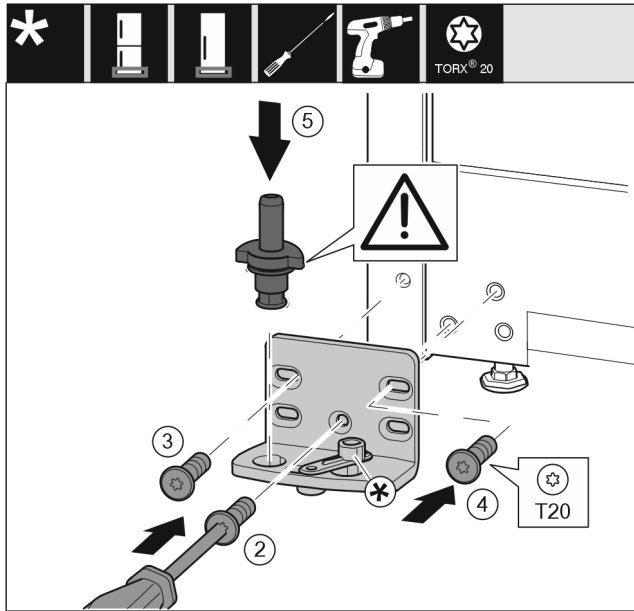

Fig. 17
- Attach the swap bearing block onto the other side and screw it on using a screwdriver. Start with the screw *Fig. 17 (2)* at the bottom center.
- Tighten screw *Fig. 17 (3)* and screw *Fig. 17 (4)*.
- Insert the bearing pin *Fig. 17 (5)* completely. In the process, make sure that the latching cam shows towards the rear.